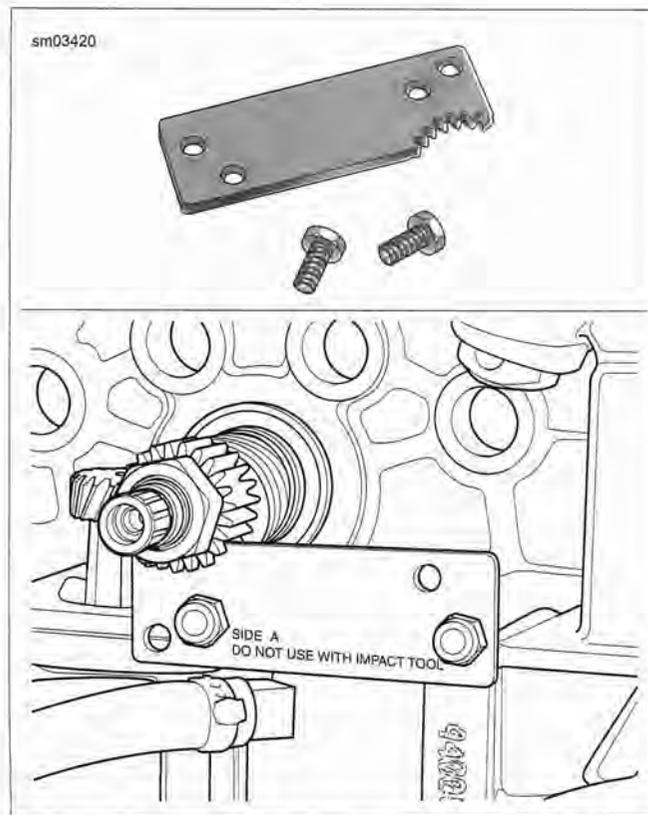

Figure 3-158. Crankshaft Locking Tool (Part No. HD-43984)
- See Figure 3-158. Install CRANKSHAFT LOCKING TOOL (Part No. HD-43984) over pinion shaft. Install nut on pinion shaft. Tighten nut to 19-21 ft-lbs (26-29 Nm). Then tighten nut an additional 15-19 degrees of rotation. Remove CRANKSHAFT LOCKING TOOL (Part No. HD-43984).